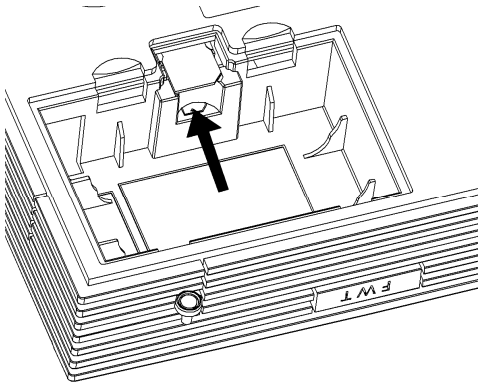

Figure 4-2 Installing R-UIM card
2. Insert R-UIM card to the slot as the arrow shows in Figure 4-2. Please put the side that with a corner cutting backwards and the side with a gold contact point downwards, and then make sure the R-UIM card is completely inserted into the slot.